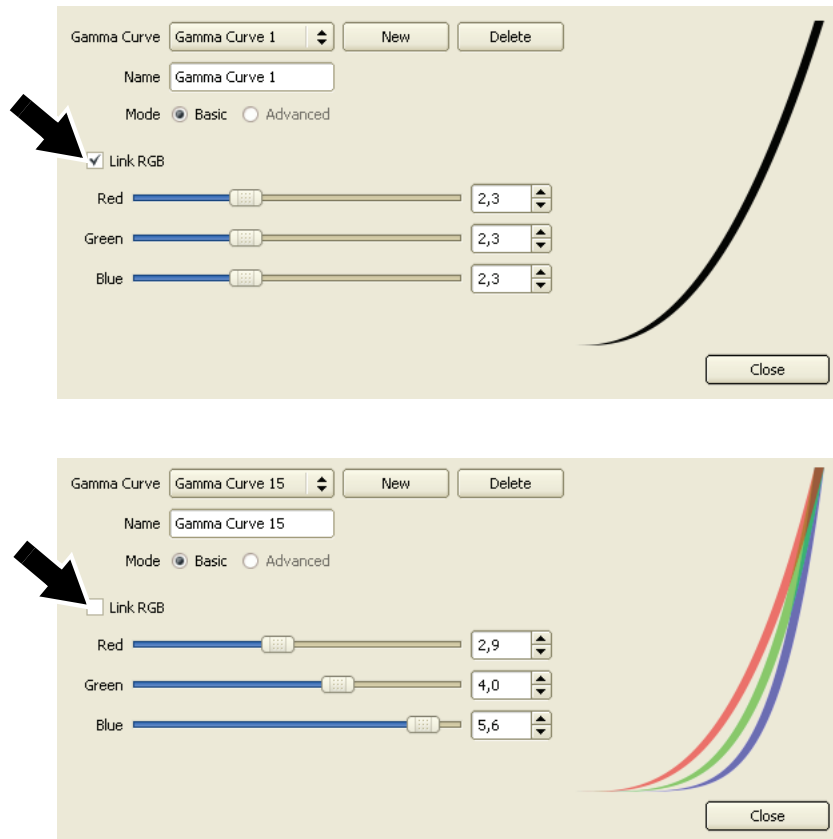

Figure 31: Gamma curve editor
4. Under **Gamma** you can select a preset gamma curve or click on **Edit** to open the **Gamma Curve Editor** (see Figure 31) where you can fine-tune the gamma curve of